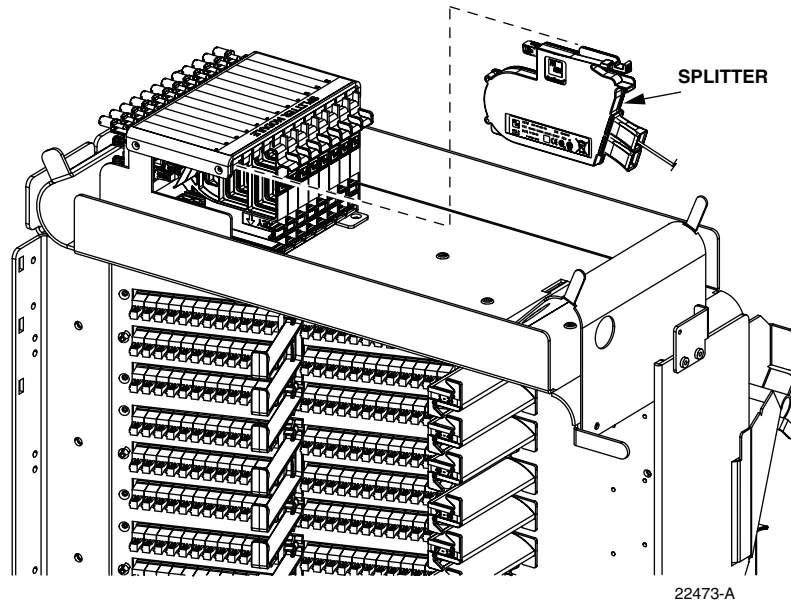

Figure 11. Splitter Installation
7. Insert the splitter into the mounting slot as shown in Figure 11.